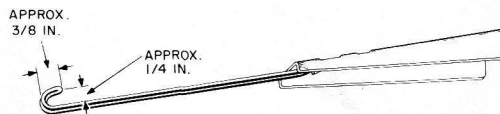
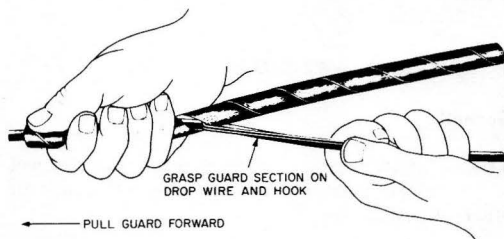
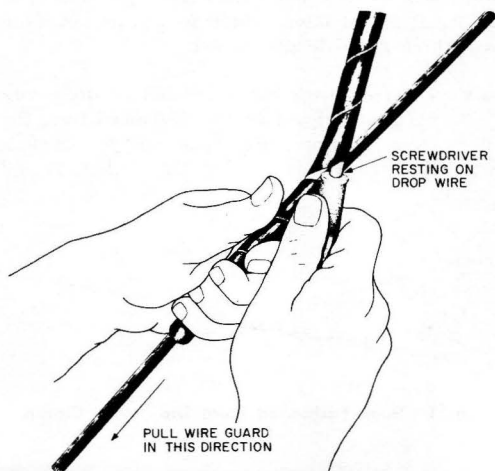

Fig. 1—Hook Fashioned From Drop Wire Clamp
Fig. 2—Placing P Wire Guard Hook Method
Fig. 3—Placing P Wire Guard Screwdriver Method
4.05 P Wire guards can be placed on drop wire by means of a hook tool fashioned from the tail wire of a drop wire clamp, or by using a screwdriver as a guide. (See Fig. 1, Fig. 2, and Fig. 3.)
already on the wire and pull guard away from the hook as shown in Fig. 2.
(3) When using screwdriver: After inserting the screwdriver blade into the part of the guard not on the wire and holding it in position shown in Fig. 3, grip the part of the guard already on the wire and pull guard away from the screwdriver.